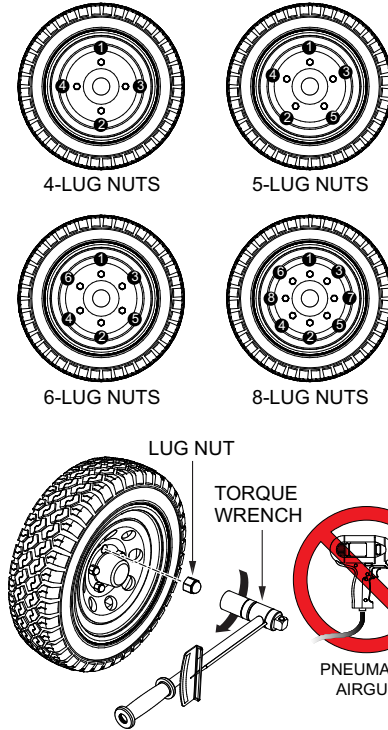

Figure 50. Wheel Lug Nuts Tightening Sequence
2. Torque (tighten) all lug nuts in sequence (Figure 50). **DO NOT** torque the wheel lug nuts all the way down. Torque each lug nut in **3 separate passes** as defined in Table 11.